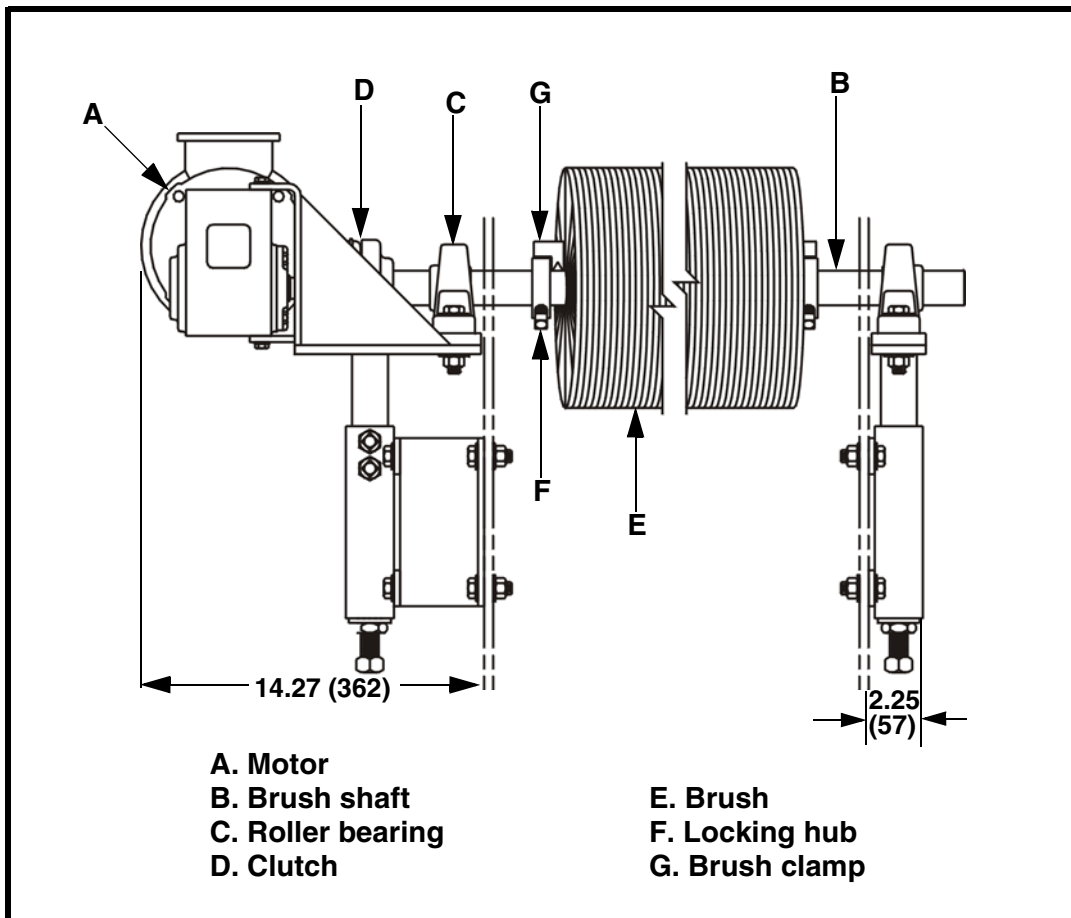

Figure 3. Installing Martin® Standard Brush Cleaner
2. Install motor (A, Figure 3) onto motor mount on far side chute wall.
3. Slide brush shaft (B) through mount on operator side chute wall and roller bearing (C) on far side chute wall.
4. Install clutch (D) onto motor shaft and brush shaft.
5. Center brush (E) under conveyor belt and secure with locking hubs (F) and brush clamps (G).
- (1) Turn take-up rod weldment to lower brush assembly away from belt.
- (2) Remove operator side bearing.
- (3) Loosen clutch (D, Figure 3). Slide shaft and brush (E) out of far side roller bearing (C) and remove from chute.
- (4) Remove brush clamps (G) and one locking hub (F).
- (5) Slide used brush off shaft and install new brush. Replace brush clamps and locking hub.
- (6) Insert shaft back into far side bearing and ensure shaft engages with clutch (D).
- (7) Make sure brush is centered under belt. Replace operator side roller bearing.
- (8) Tension brush against belt.